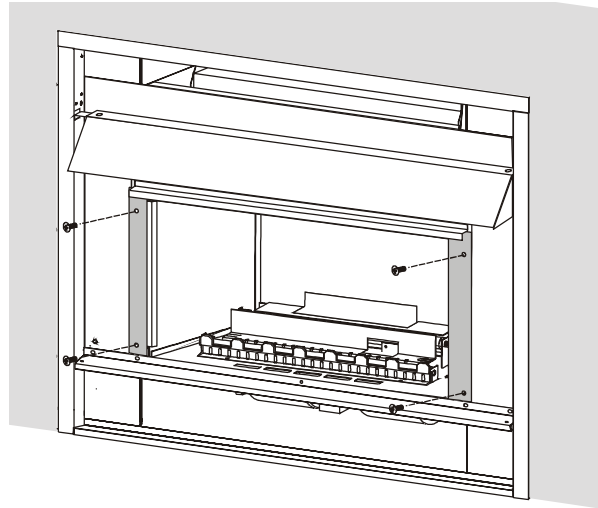

Figure 23. *Removing and installing the glass door.*
- 14. Remove the glass door as shown in Figure 23. Remove the plastic shipping ties and padding from the two bottom logs. Install the top logs as shown in Figure 8b and 8c. Re-install the door.